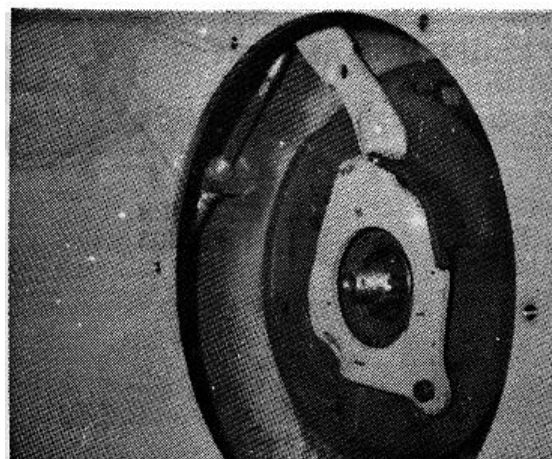

FIGURE 10-4.
c. Connect actuator lever to control cable, then position actuator lever into backing plate as shown (see figure 10-4).